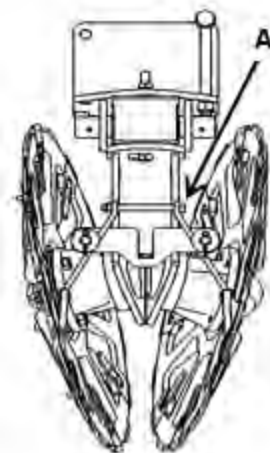

Figure 7-14: Top Scrapers
Adjust bolt (A), shown in Figure 7-14, to move scrapers out to the lifter wheels.